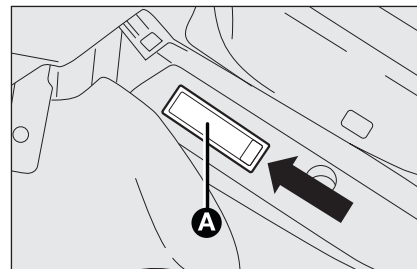

fig. 35
- using the screwdriver provided, extract the ceiling light **A**-fig. 35 working in the specified point;